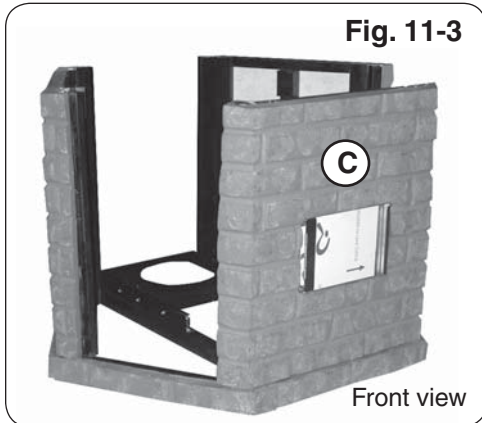

Fig. 11-3
3. Install the Brick/Stackstone panel w/control cutout (C) as shown in Fig. 11-3 and 11-4.